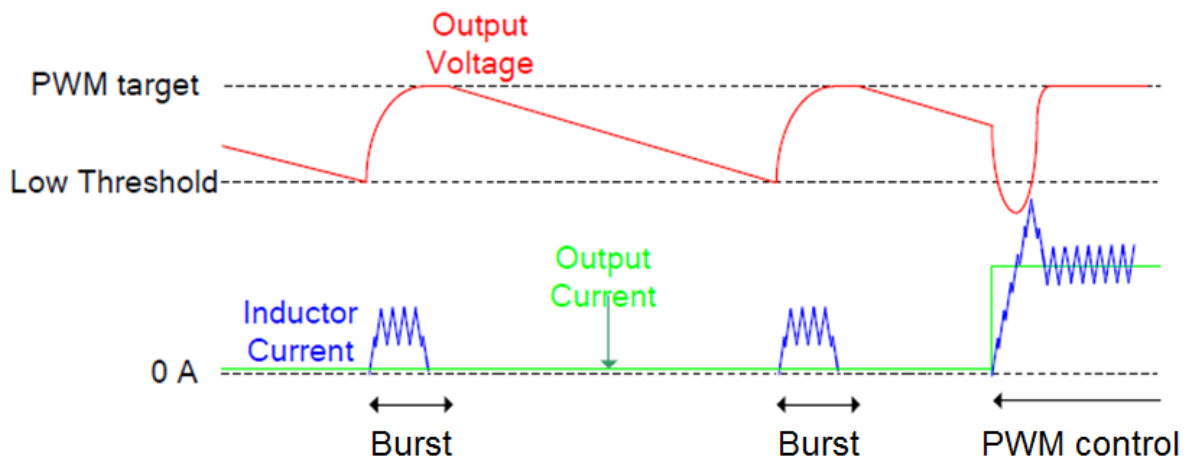

Figure 1: Principle of operation of the PFM mode in DA9210
- a) Negative DVC in PFM mode. In this case the condition for V_{OUT} spikes to happen is a long no switching time, means the time between two consecutive bursts is too long (see Figure 1).
- a) A shifted voltage on the hold capacitor causes a switching re-start with very high duty cycle, next time a switching burst is needed during PFM mode (see Figure 1). For this reason spikes may happen at V_{OUT} .